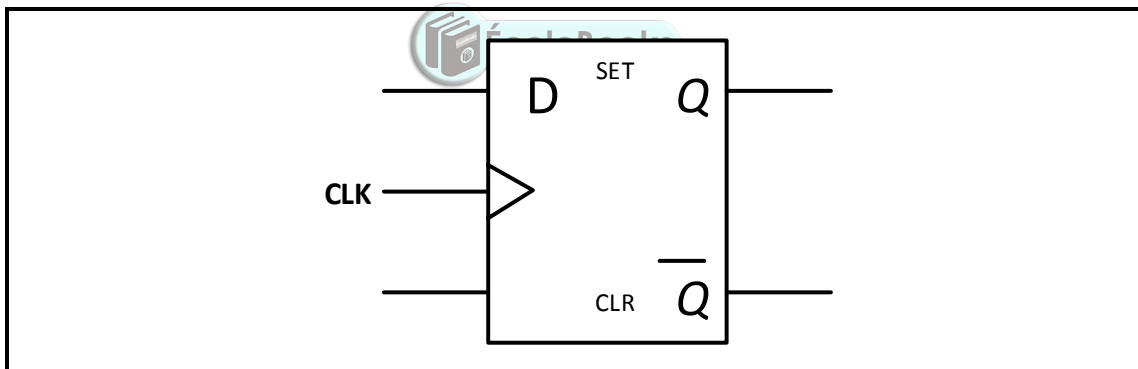

FIGURE 4.5: D-TYPE FLIP-FLOP
4.5 FIGURE 4.5 below represents the logic symbol of a clocked D-type flip-flop.